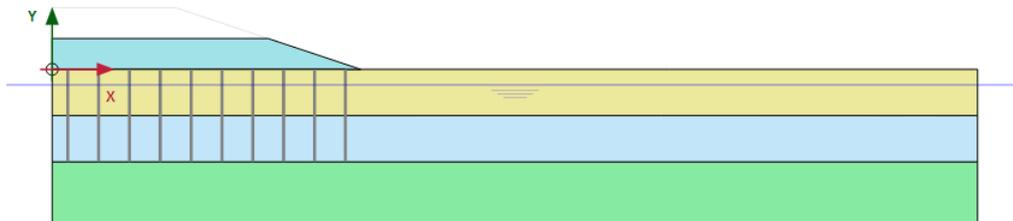

Figure 114: Configuration of the phase 1
5. In the **Staged construction mode** activate the first part of the embankment. The model for phase 1 is shown in Figure 114 (on page 135).